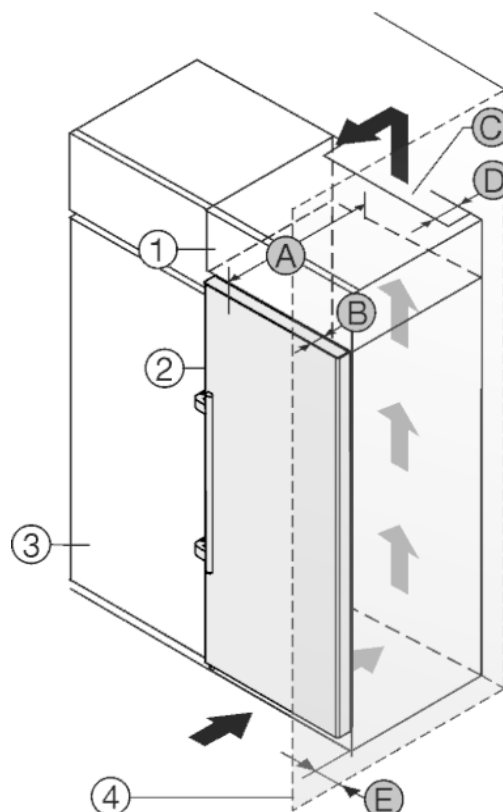

Fig. 19
The appliance can be built into kitchen units. A top cupboard Fig. 19 (2) can be added above the appliance in order to bring the appliance Fig. 19 (1) up to the height of the fitted kitchen units.
The appliance can be installed right next to the kitchen cabinet Fig. 19 (3). The appliance must stick out by the depth Fig. 19 (B) from the front of the cabinet so that the doors can be opened fully. The appliance may protrude further depending on the depth of the kitchen cabinets and whether wall spacers are used.
- There must be a ventilation shaft with the depth Fig. 19 (D) at the back of the top cupboard over the entire width of the cupboard.
- The ventilation shaft Fig. 19 (C) must be observed under the ceiling.
If the appliance is installed with the hinges next to a wall *Fig. 19 (4)* the distance *Fig. 19 (E)* between the appliance and the wall must be observed. This is how far the handle protrudes when the door is open.